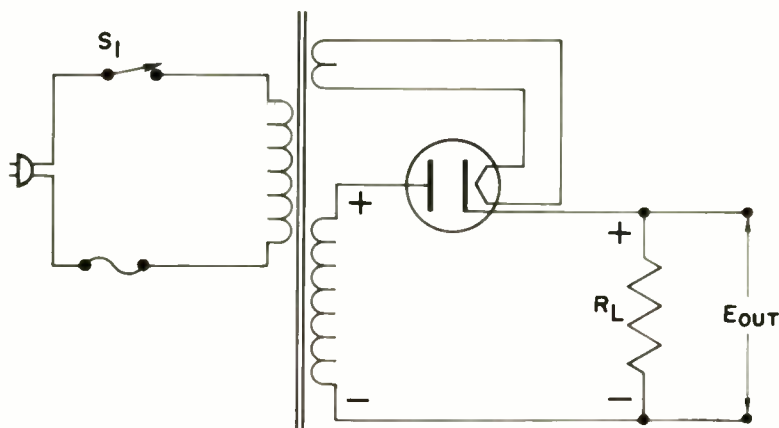
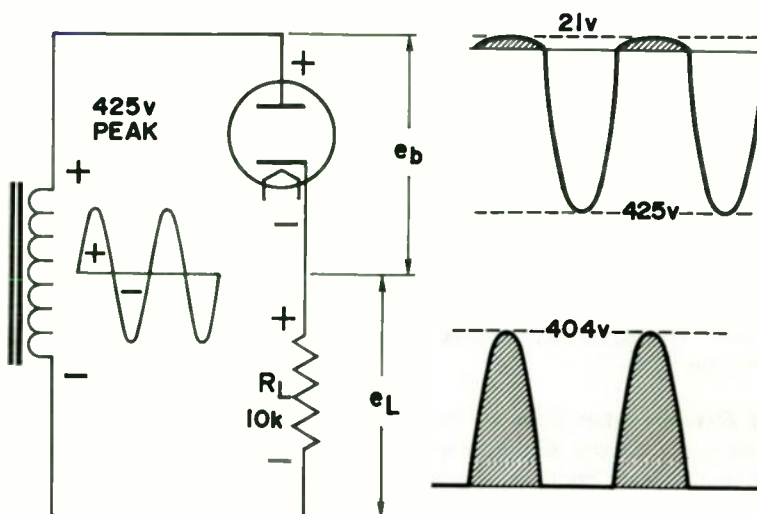

Figure 6 — Half-wave rectifier circuit.
Figure 7 — Rectifier circuit and voltage waveforms.
**Practical Rectifier Circuit** A practical tube rectifier circuit is shown in Figure 6. Notice that a separate winding is provided on the transformer to supply current to heat the cathode. This particular tube uses an indirectly heated cathode, so the heater filament is electrically isolated from the electron emitting element.
The schematic diagram in Figure 7 is the same as that in Figure 6. Figure 7, however has been drawn again to emphasize the fact that the rectifier tube and the load resistor form a simple series circuit connected across the transformer high voltage secondary. The heater winding has been omitted from the drawing for simplicity.
At zero degrees on the sine wave of secondary voltage, the applied voltage is zero. An instant later, the top end of the secondary winding becomes slightly positive, and current begins to flow in the circuit. Since the diode tube and the load resistor form a series circuit, the same current flows through both the tube and the resistor. This current will produce voltage drops across the load resistor ( $R_L$ ) and tube which have the polarities shown in Figure 7. Since the resistance of the diode is very low, about 95 percent of the applied voltage will be dropped across the load resistor and only about 5 percent will be dropped across the tube.
The half wave rectifier (Fig. 7) draws power from the transformer during only half of the input cycle. Thus, for a given size of transformer, less power can be delivered than if the transformer were utilized on both halves of the cycle. For this reason, half wave rectifiers are used mostly in applications that require relatively small current drains.